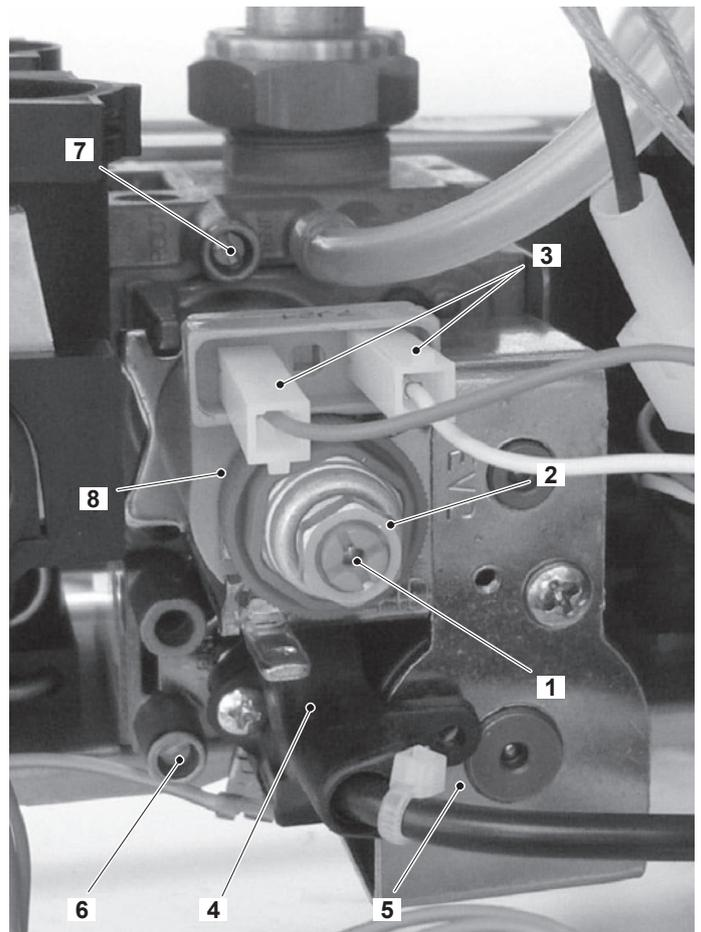

Figure 11.2
### 11.2 Nomenclature of the parts - (Figure 11.2)
- 2 Open the gas valve inlet pressure test point (6 in Figure 11.2) at the valve input, connect a suitable pressure gauge and check the gas pressure of the supply network.
- 4 Open the gas valve outlet pressure test point (7 in Figure 11.2) and connect the gauge;
- 7 Rotate the maximum gas pressure adjustment (2 in Figure 11.2) until you obtain the required pressure (by rotating clockwise the pressure increases).
- 8 Turn the boiler off and disconnect one of the two connectors (3 in Figure 11.2).
- 9 Start the boiler and rotate the minimum gas pressure adjustment (1 in Figure 11.2) until you obtain the required pressure (by rotating clockwise the pressure increases).